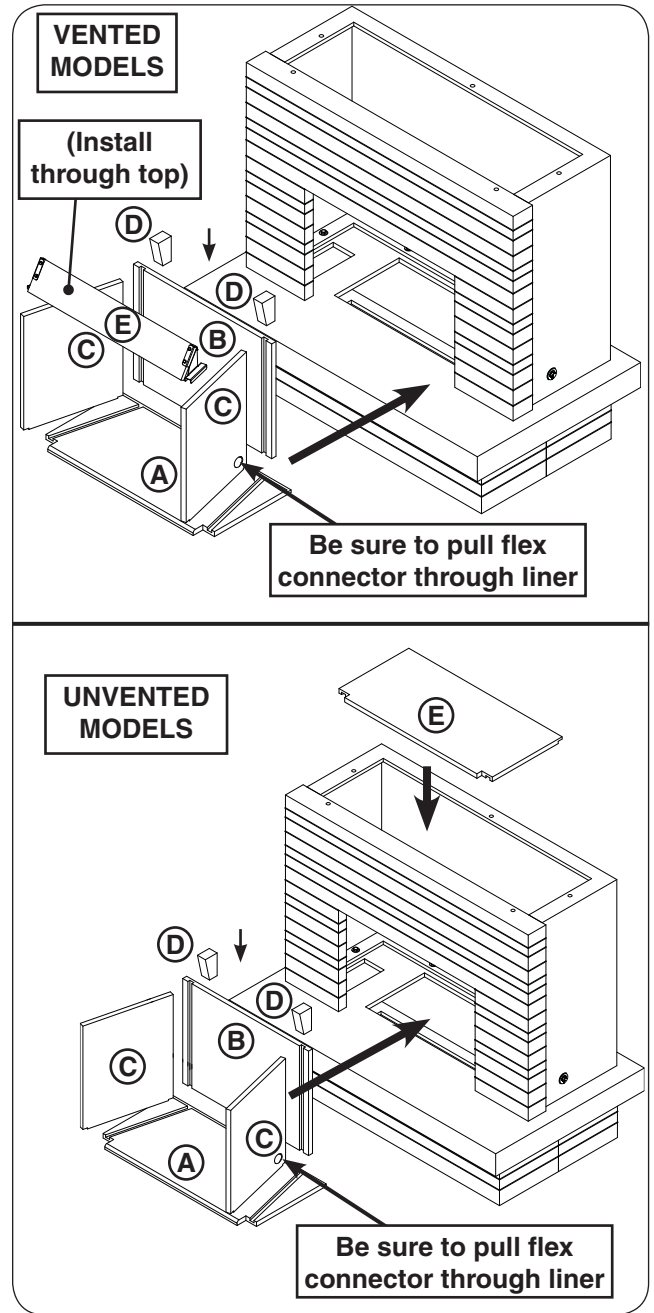

Fig. 16-1 Install firebox liners
1. Install the firebox liners into the interior of the firebox in the order shown in Fig. 16-1, depending on your model.